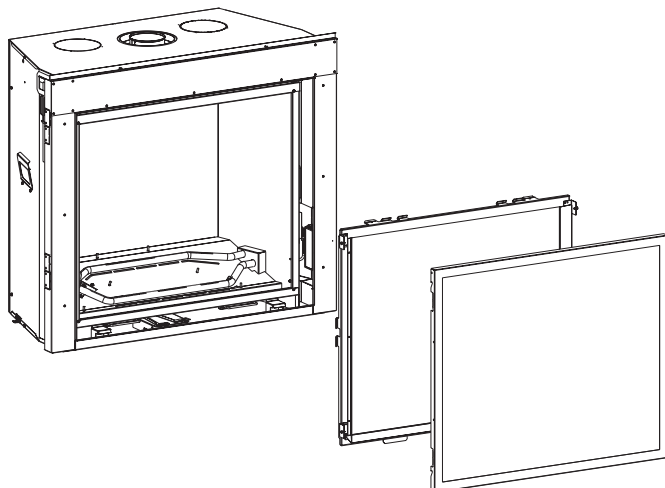

Figure 97
1. Remove the following items: **See Figure 97.**